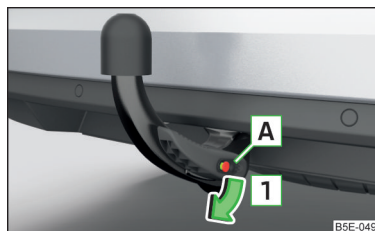

Fig. 174
- Remove the cover **A** from the lock in the direction of the arrow **1** » Fig. 174.